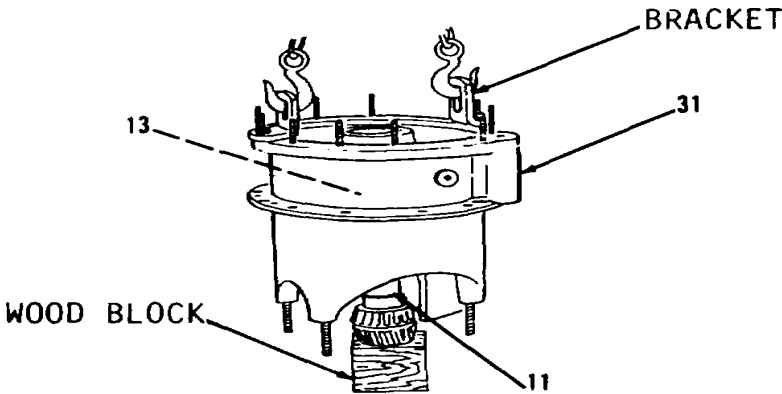

Figure 14-144.
- 12. Position shaft (11, Figure 14-144) on wood block.
- 13. Attach bracket to carrier (31) and hoist and chain to bracket.